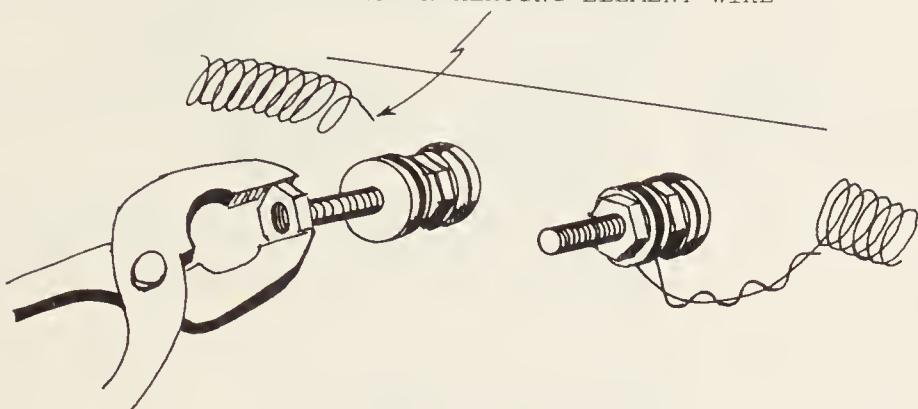

FIG.2
2. Remove the two metal washers. Make certain that the broken piece of heating element wire located between the metal washers is also removed. (*Figure 2*)